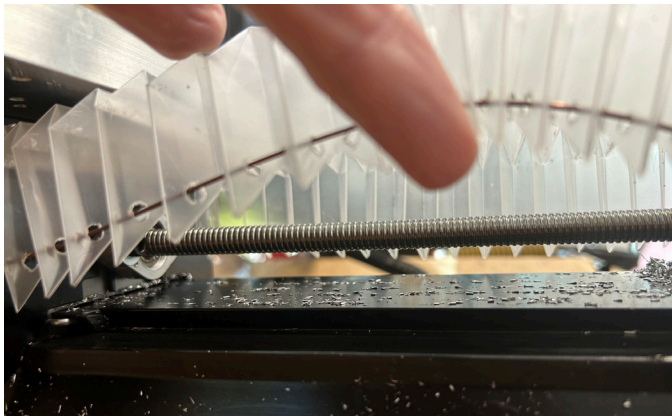

FIGURE 4—Chuck Lathe Z-axis.
- i. Move the Z-axis as close to the headstock as possible (Z-). Apply the grease near the saddle (see Figures 4 and 5).